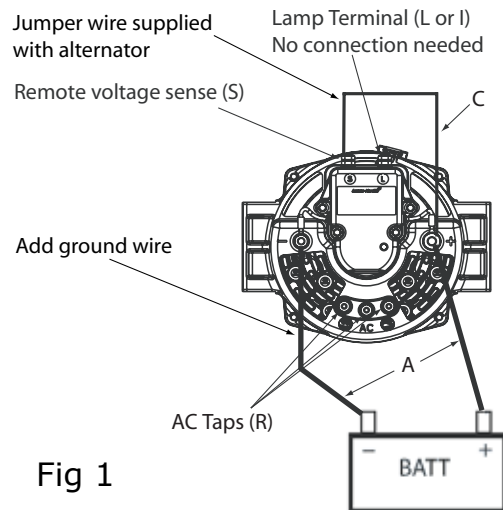

Fig 1
One wire: Alternators that have one positive wire connected to the alternator has the ground connected to it's case. Our alternators have an isolated ground terminal so a ground wire will need to be added from alternator ground to battery ground. A jumper wire is supplied to connect the alternator (S) terminal to the (B+) terminal. Refer to Fig 1 for proper wiring. If vehicle has an ignition wire, it does not need to be connected to the alternator. Insulate and secure to prevent shorting.